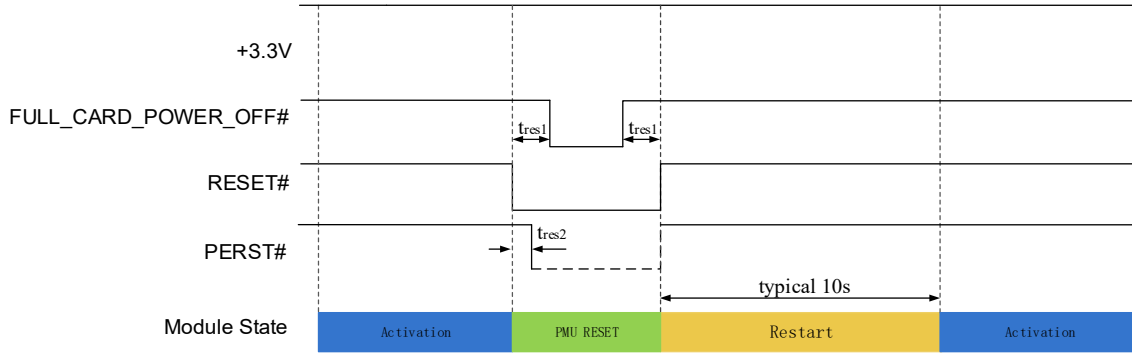

Figure 3-9 Reset control timing2nd
- Host may assert FULL\_CARD\_POWER\_OFF# high when system restarting, module reset timing is shown in the Figure 3-9;